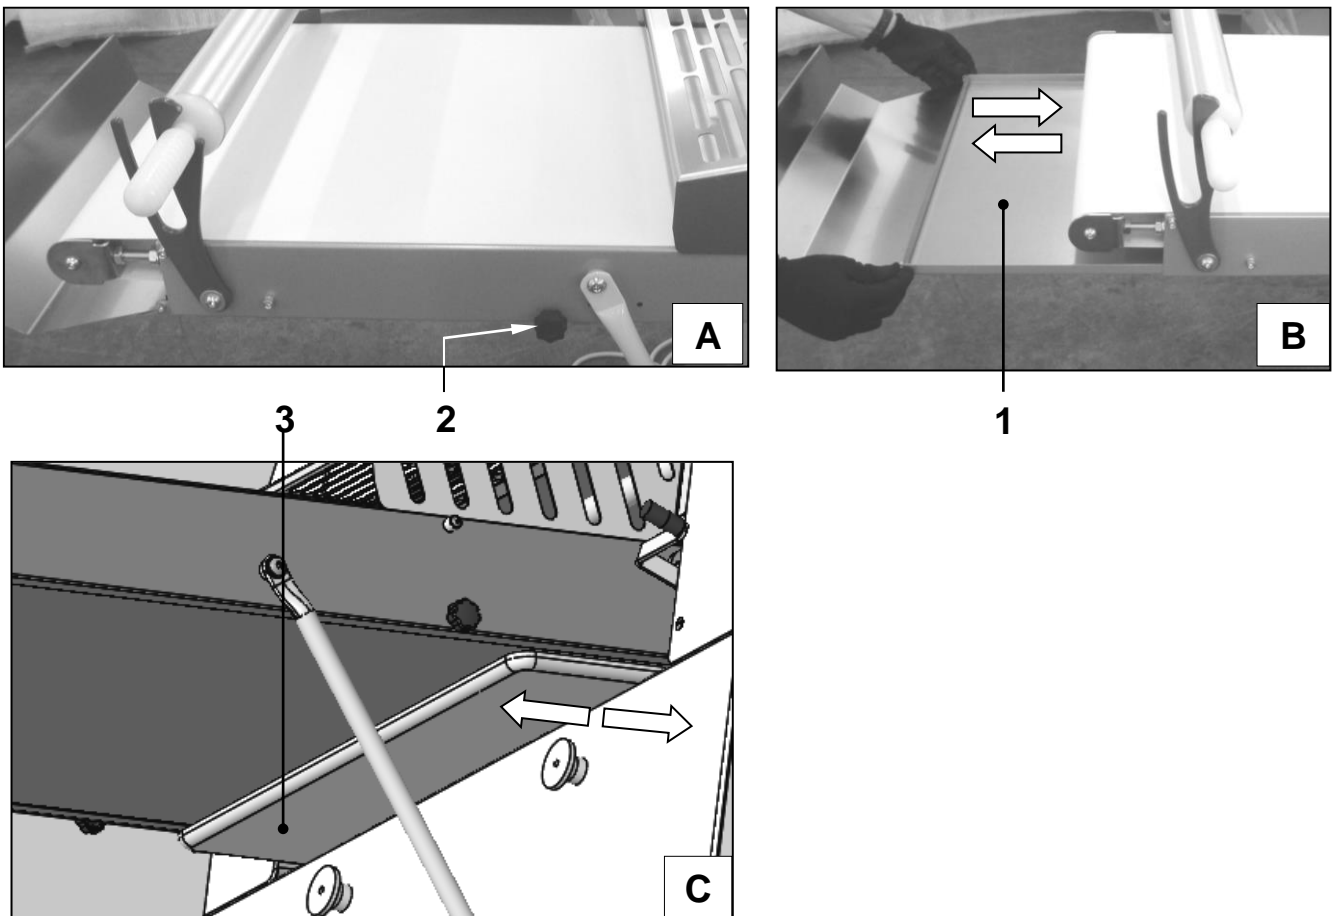

Fig. 4.7
Under each bench there is an under-bench unit ref. 1 (Fig. 4.7) for collecting dust and dough crumbs (crumb shelf); it can be removed after removing the threaded knobs ref. 2, one on each side of the bench (pictures A - B). When reinserting the crumb shelf, secure it by tightly screwing in the threaded knobs ref. 2. A tray ref. 3 is also supplied, to be placed by hand under the sheeting area (photo C).